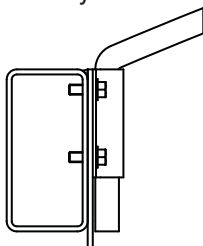

Figure 14
3) Figure 14. Position bracket and bow as shown to reduce tarp wear.